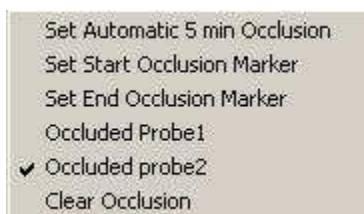

Figure 32 - Occlusion Popup Menu
2. Point the mouse at the beginning of the occlusion area. Right click on the mouse will open a popup menu (Figure 32). Select “Set Automatic 5 min Occlusion” from the popup menu. A five minutes segment starting at the cursor position will be marked in blue. Occlusion markers (blue vertical lines) can be dragged to improve the fit of the occlusion area. Zoom-in to fine tune the location of the occlusion markers.
3. Point the mouse at the beginning of the occlusion. Right click to open a popup menu (Figure 32).
- The designated occluded probe is marked on screen by the blue text: “Occlusion duration:” under the Probe label, on the left side of the screen. The occluded probe is selected automatically by the software. It can be changed by right clicking on the mouse (anywhere in the signal window) and selecting the correct occluded probe (Figure 32).
- To remove the manually added occlusion markings, right click on the mouse and select “Clear Occlusion” (Figure 32).